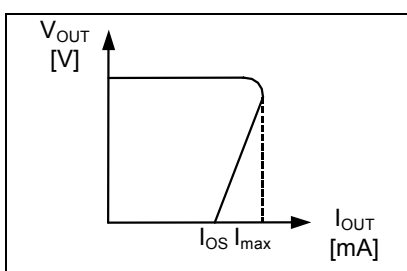

Figure 18
The S-87x Series has a built-in short-circuit protection circuit to protect the element from break caused by a large current in case of a short circuit. The output short current is internally limited to approx. 70 mA. Short-circuit protection circuit has three kinds characteristics according to input voltage (V_{IN}) as shown in **Figure 18 to 20**.
- (1) At the time of voltage detection, the voltage regulator is shutdown and load current is cut. Therefore, VIN pin voltage increases by $\Delta V_{IN} = I_{IN} \times R_{IN}$, where the current flowing into R_{IN} is set to I_{IN}. Hence, if ΔV_{IN} exceeds hysteresis width (V_{HYS}), oscillation starts immediately after detection and continues. It is necessary to set ΔV_{IN} less than V_{HYS}.
- (2) At the time of voltage release, the voltage regulator is powered on and load current flows. Therefore, if ΔV_{IN} exceeds hysteresis width (V_{HYS}), oscillation starts immediately after release and continues. It is necessary to set ΔV_{IN} less than V_{HYS}. Also at the time of voltage release, the rush current to charge output capacitor (C_{OUT}) flows. Hence, oscillation momentarily starts until the output of regulator (V_{OUT}) rises high enough even though ΔV_{IN} is set less than V_{HYS}. But Short-circuit protection circuit controls the rush current less than I_{MAX} on Figure 18 to 20. If this momentary oscillation is a problem in your application, setting R_{IN} less than V_{HYS}/I_{MAX} prevents oscillation.